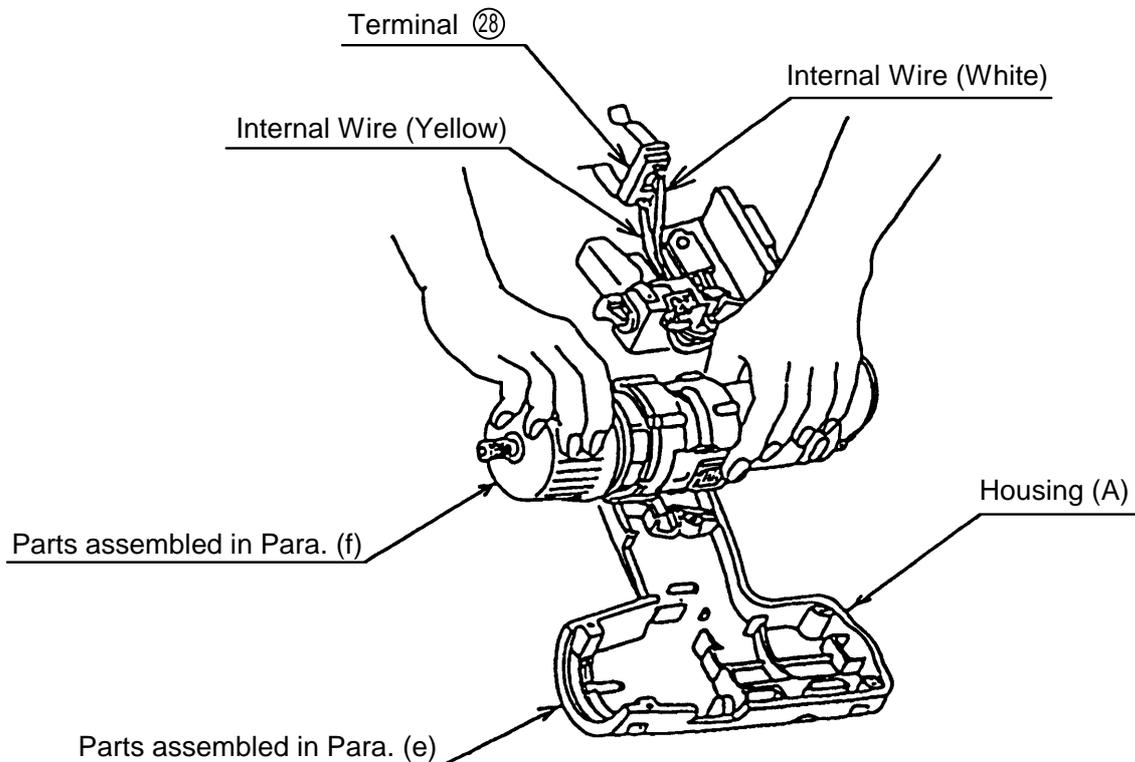

Fig. 10
(g) Mount the components assembled as described in Para. (f) onto the components assembled as described in Para. (e). At this time, ensure that colored leadwires soldered to the Terminals ⑳ are properly aligned with relation to Housing (A) and Housing (B). (See Fig. 10)